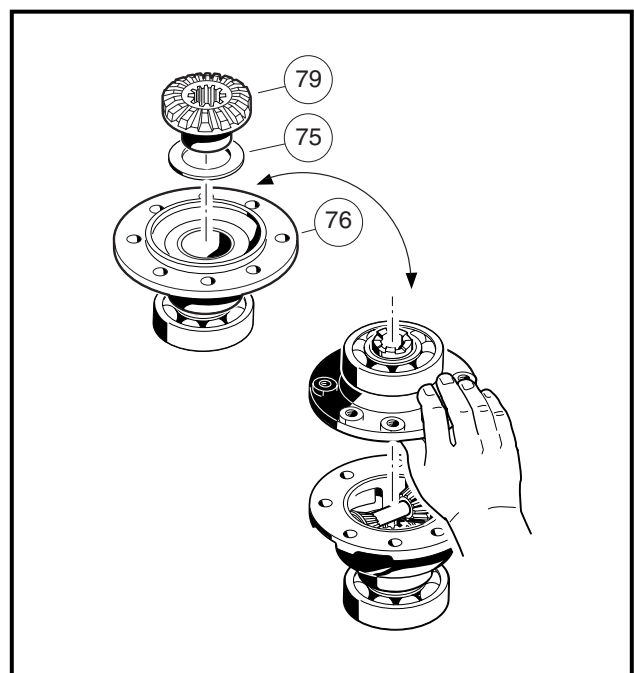

Figure 7-38 Carrier Case
- 1.5. Install the thrust plate (75) and differential gear (79) into the carrier case cover (76) (**Figure 7-38, Page 7-21**). While holding the thrust plate and differential gear in place, position the carrier case cover on the carrier case.
- 2.5. Install the thrust plate (75) and differential gear (79) into the carrier case cover (76) (**Figure 7-38, Page 7-21**). While holding the thrust plate and differential gear in place, position the carrier case cover on the carrier case.